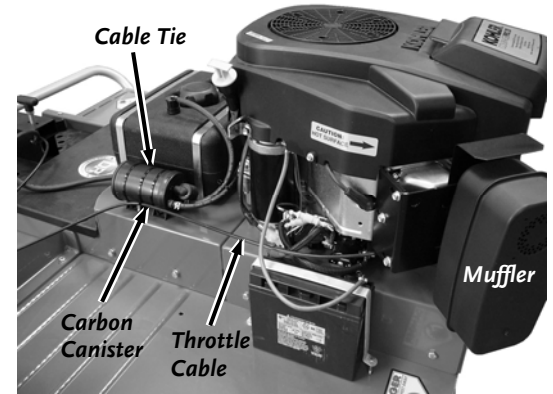

Figure 14
1. Route the Throttle Control Cable from the Tow Bar next to the Carbon Canister and then to the Throttle Linkage on the left hand side of the Engine (**Figure 14**).
7. Pull the excess Cable away from the Muffler area and secure to the Carbon Canister with a Cable Tie (**Figure 14**).